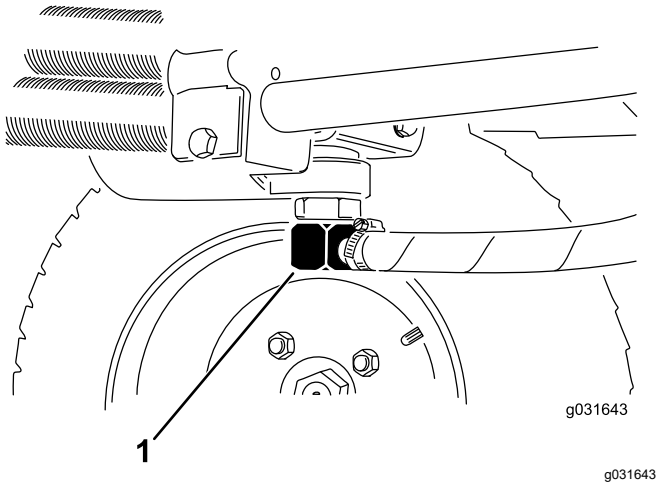

Figure 64
2. Disconnect the hydraulic line or remove the hydraulic filter and let the hydraulic fluid flow into a drain pan (Figure 63 and Figure 64).
3. Install the hydraulic line when the hydraulic fluid stops draining (Figure 64).